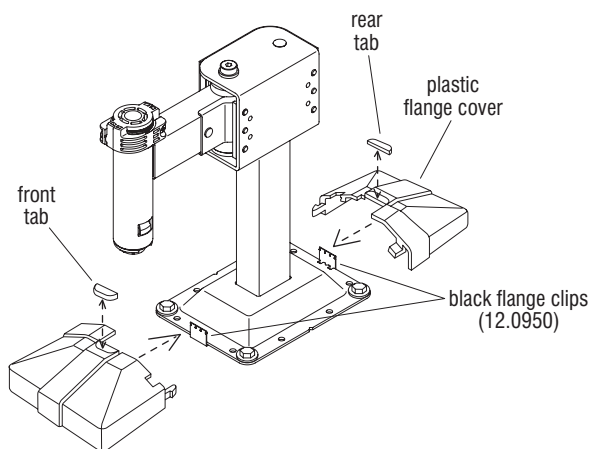

Figure 3 - Fixed-Height Swing-Arm Base
1. Break out tabs in plastic covers to fit around rectangular columns. Snap together around column. Push down to engage flange clips. Push tight to floor. Note direction of column before breaking out tabs (Figures 3 & 4).